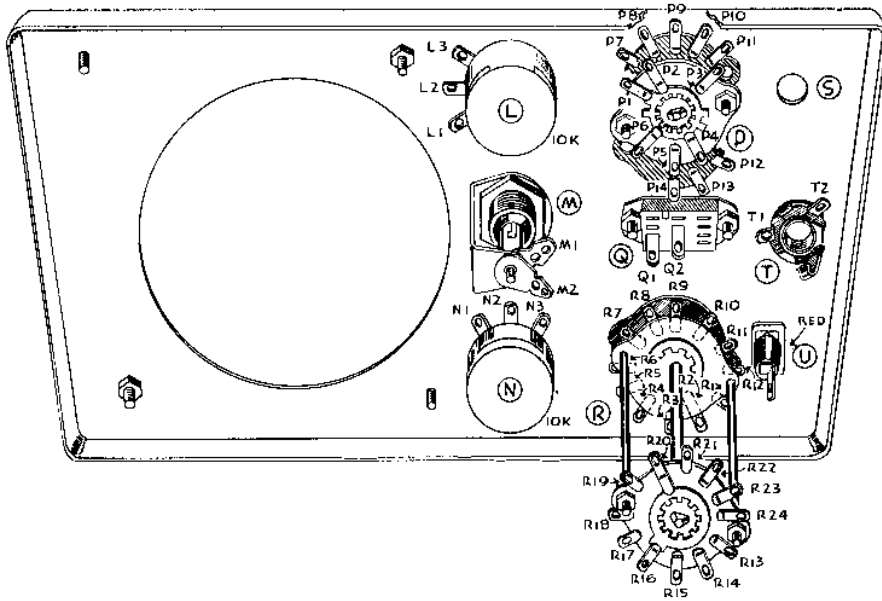

Fig. 5 Mounting of Parts on Chassis
Note Figure 5 for the proper placement of switches, controls, etc. on the panel. Place all contacts and lugs in the same relative positions as shown in figure.
- () Consult Figure 7 and mount the phone jack assembly in position T. Be sure the positioning of lugs is exactly as shown in Figure 5. Otherwise shorting might occur when the panel is placed on the cabinet.
- () Mount the selector switch in location P. Keep the position of the lugs exactly as shown in Figure 5.
- () Connect the 200K resistor from R6 (S) to R19 (NS). Be sure that the resistor leads cannot short to the switch wafer spacers. Use spaghetti if necessary.
- () Connect a short bare wire jumper from R7 (S) to R19 (NS).
- () Connect the 700K resistor from R8 (NS) to R19 (S).
- () Connect the 2 Megohm resistor from R8 (S) to R21 (NS).
- () Connect a short bare wire jumper from R9 (S) to R21 (NS).
- () Connect the 7 Megohm resistor from R10 (NS) to R21 (S).
- () Connect the 9 Megohm resistor from R11 (NS) to R22 (S).
- () Connect a short bare wire jumper from R11 (NS) to R23 (S).
- () Connect the 900K resistor from R11 (S) to R24 (NS).
- () Connect the 90K resistor from R24 (S) to R1 (S). Be sure that the resistor leads cannot short to the switch wafer spacers. Use spaghetti if necessary.
- () Mount the range switch on the panel in location R. Be sure AND HAVE THE LONG LUG ON THE REAR DECK located as shown in Figure 5 and Pictorial 2.